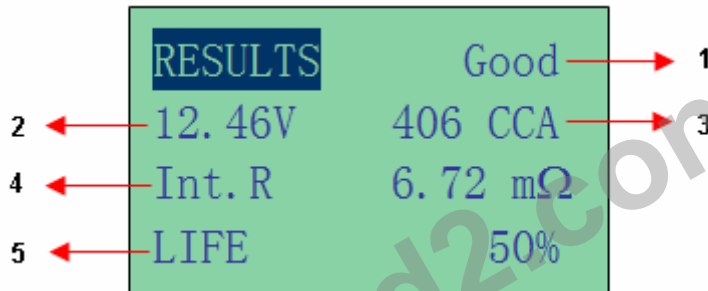

Figure 14
12. For less than 5 seconds, the results of the testing will be displayed on the LCD screen. (Fig. 14)